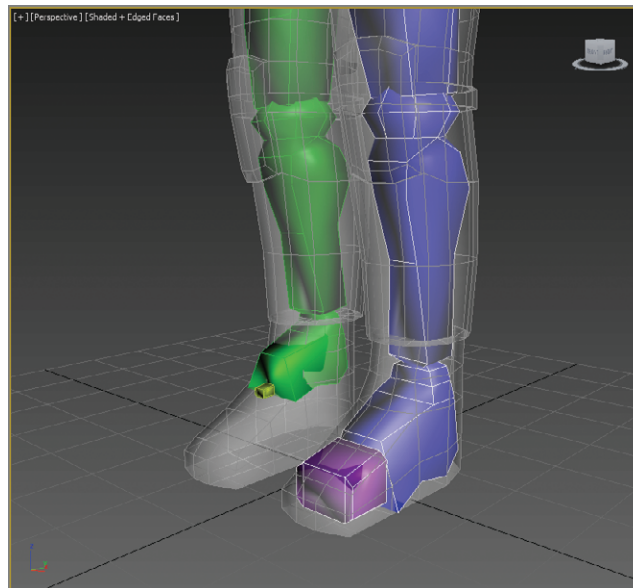

FIGURE 12.9 Match the model's boot and the biped's toe.
14. Scale and move the biped's toe to match the model's boot. Be sure to scale the toe links on the Z-axis, as shown in Figure 12.9.